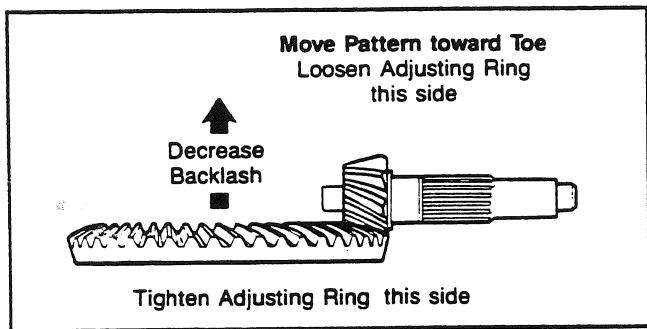

Fig. 86
- a) Decrease backlash to move the tooth contact patterns toward the toe of the ring gear teeth (see Fig. 86).